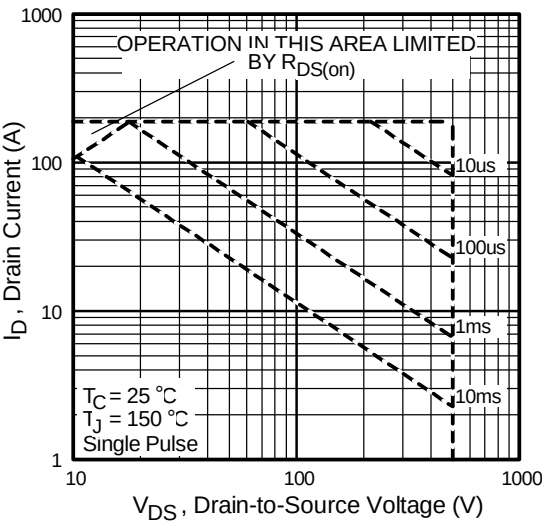

Fig 12. Maximum Safe Operating Area
- ② Starting $T_J = 25^\circ\text{C}$, $L = 0.86mH$, $R_G = 25\Omega$, $I_{AS} = 46A$. (See Figure 12).
- ③ $I_{SD} \leq 46A$, $di/dt \leq 367A/\mu s$, $V_{DD} \leq V_{(BR)DSS}$, $T_J \leq 150^\circ\text{C}$.
- ④ Pulse width $\leq 400\mu s$; duty cycle $\leq 2\%$.
- ⑤ $C_{oss \text{ eff.}}$ is a fixed capacitance that gives the same charging time as C_{oss} while V_{DS} is rising from 0 to 80% V_{DSS} .